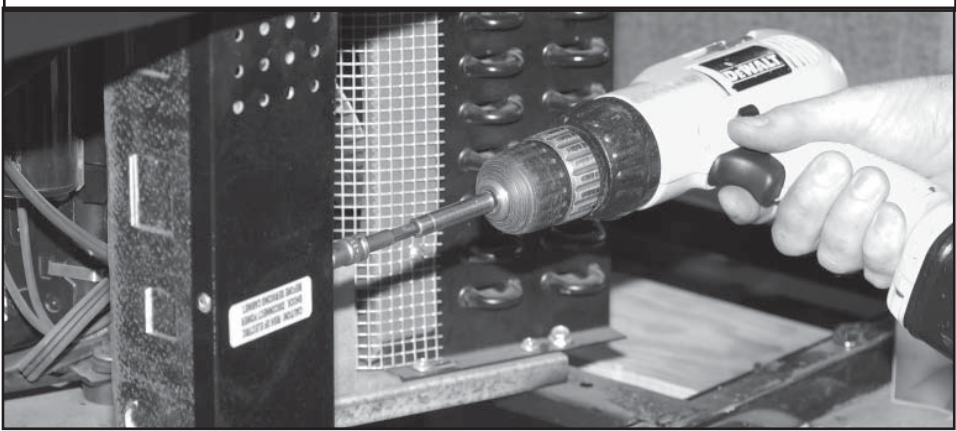

Figure 2. Removing ballast box cover
A. Remove ballast box cover by backing out two hex head screws. (See Figure 2).